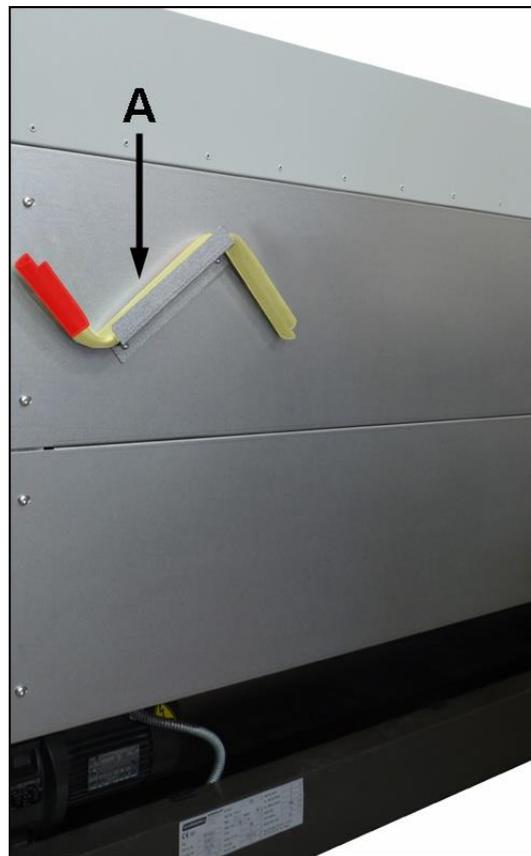

Fig. 10.1
The handle is located at the rear of the ironer (Fig. 10.1).
4. **VERY IMPORTANT!!! Before resuming operation of the machine, remove the handle and store it in its support at the rear of the machine (Fig. 10.1).**
4.  **VERY IMPORTANT!!! Before resuming operation of the machine, remove the handle and store it in its support at the rear of the machine (Fig. 10.1).**